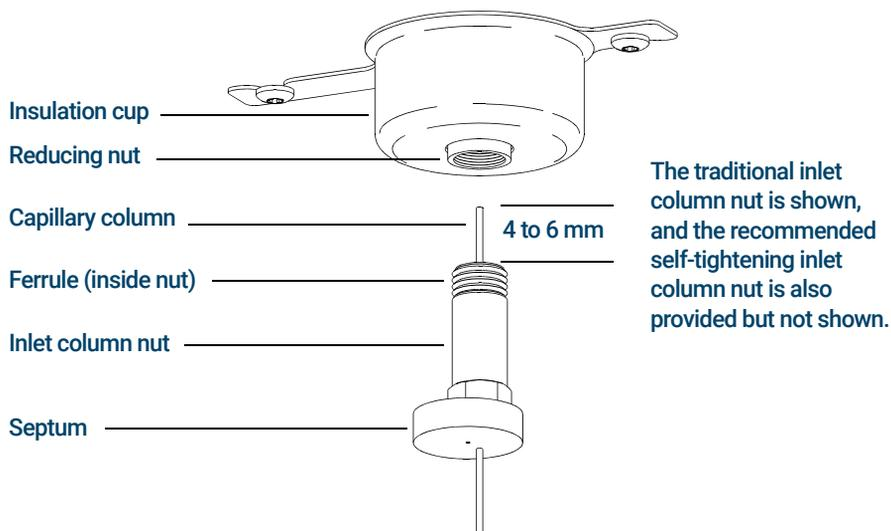

Figure 19. Installing a capillary column for a split/splitless inlet
- 7 Position the septum under the column nut so that the column extends 4 to 6 mm past the end of the ferrule. (See **Figure 19** on page 82.)
For the standard column nut, (shown in **Figure 19**) tighten the nut an additional 1/4 to 1/2 turn. The column should not slide with a gentle tug.